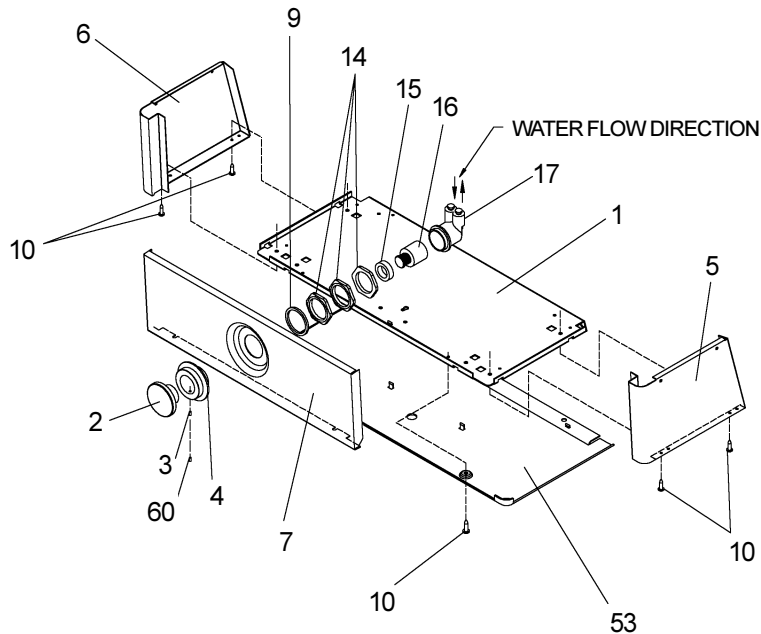

FIG. 3
- 8) Stream height is factory set at 45-50 PSI. If supply pressure varies greatly from this, adjust screw, accessible by removing Item 2, Fig. 3. CW adjustment will raise stream and CCW adjustment will lower stream. For best adjustment, stream should hit basin approximately 6-1/2" (165mm) from bubbler.